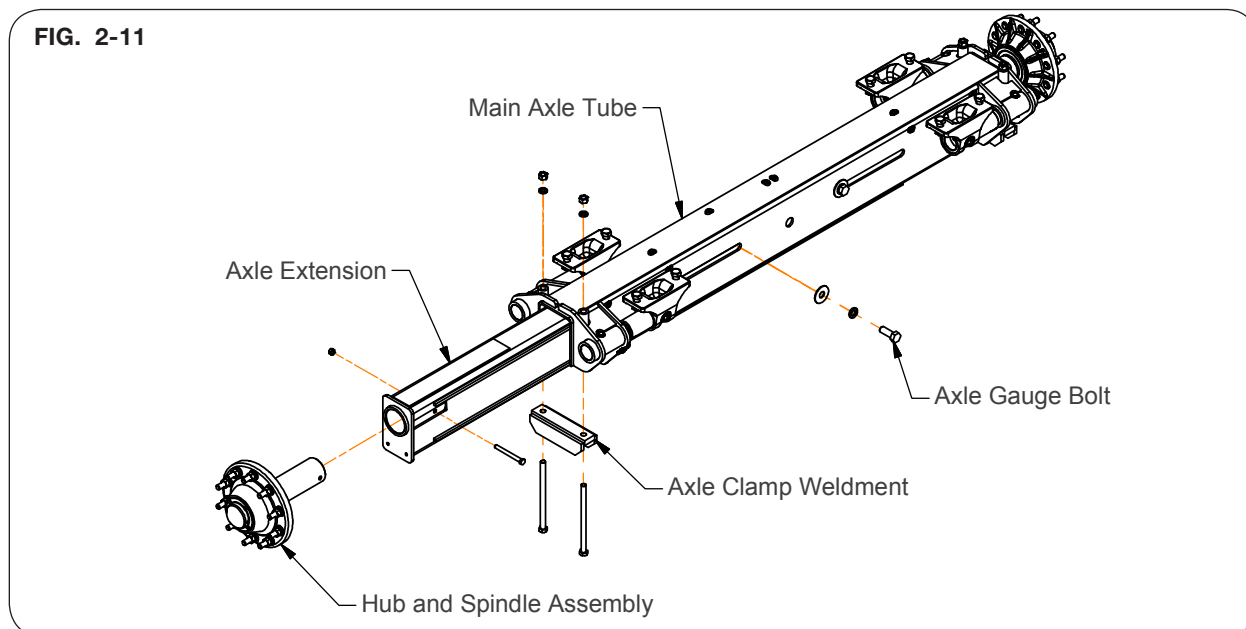

FIG. 2-11
- Tighten axle gauge bolts followed by axle clamp bolts, refer to MAINTENANCE section for proper torque specifications. (FIG. 2-11)